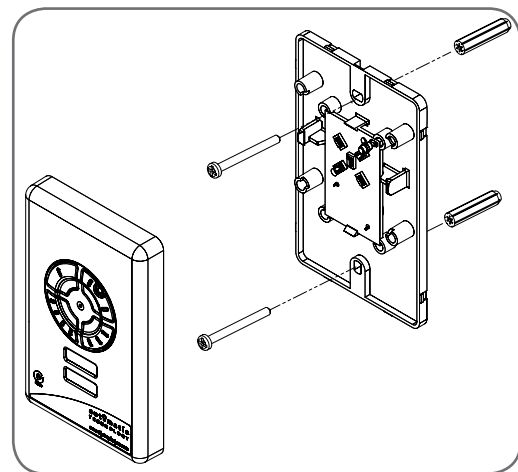

fig 50
- Affix the baseplate in a convenient wall location that is out of reach of children and convenient to the customer (Fig 50). Make sure the door is visible from this location.